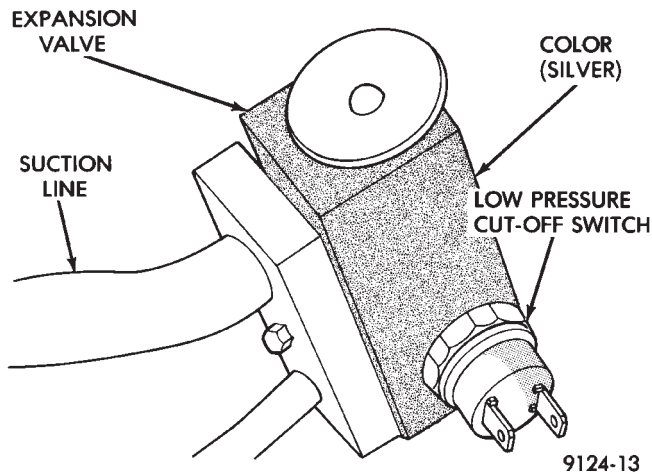

Fig. 7 Low Pressure Cut-Off Switch
(3) Disconnect wire connector at low pressure cut-off switch (Fig. 7). Using a jumper wire, jump terminals inside wire connector boot.